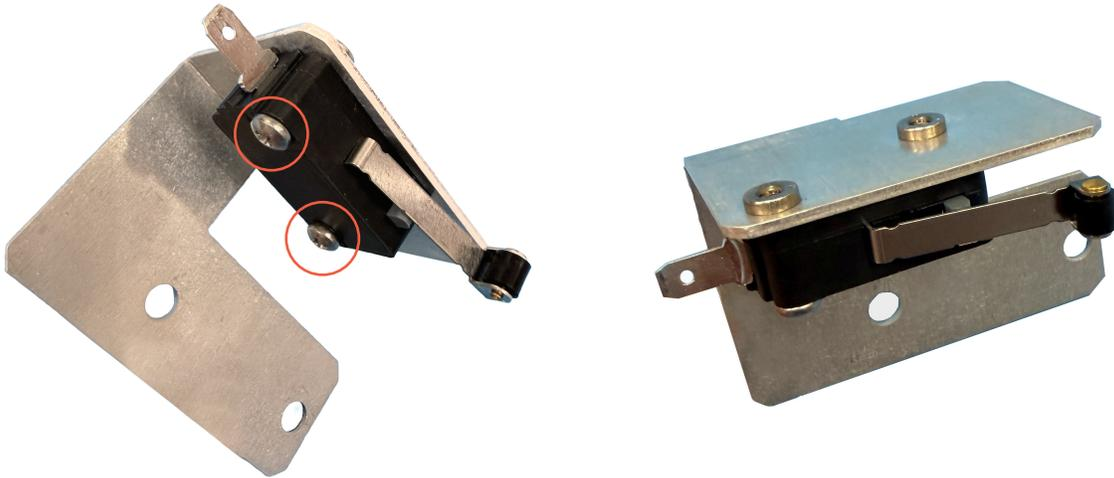

Figure 1 Door Switch Bracket and Switch Fully Assembled
- Step 2. Mount each door switch to a door switch bracket with two 4-40 x 1/2" screws retrieved in *Step 1*. Torque the screws to 6 in-lb (see *Figure 1*).